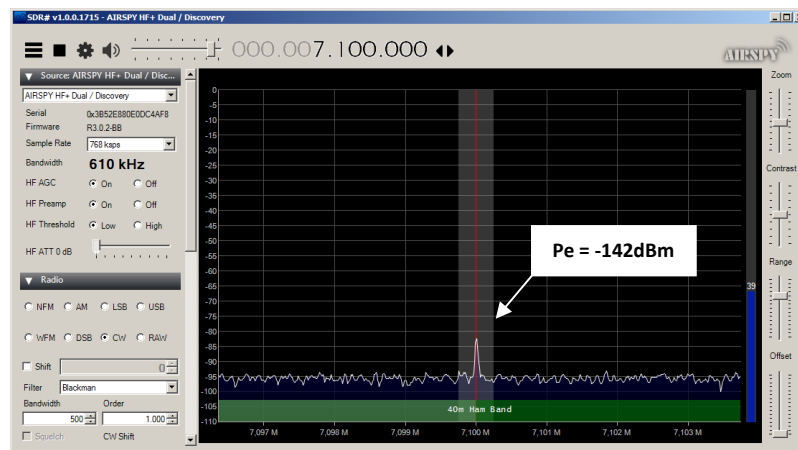

Figure 4: Signal with (S + N) / N = 3dB over noise, sensitivity (MDS) = -142dBm @ 500Hz
For this purpose, the input of the SDR is connected to a RF-Generator and its level (Pe) is reduced until the audio signal at the output of the SDR reaches an increase of 3dB (S + N)/N. Then the input signal corresponds to the sensitivity (the noise floor) of the receiver. **Figure 4** shows the measurement of the sensitivity at fe = 7.1MHz, it is -142dBm @ 500Hz corresponding to a noise figure (NF) of 5dB.